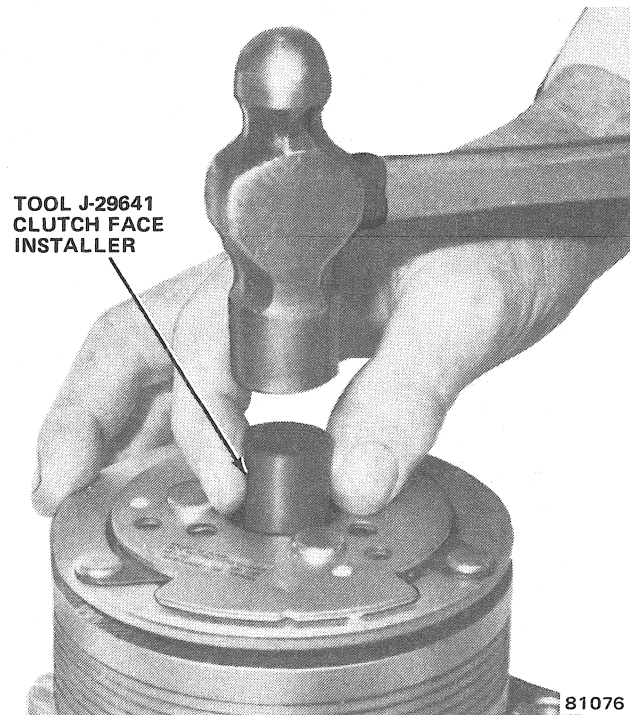

Fig. 3E-32 Front Plate Installation
(17) Install clutch spacer shims.
(18) Tap new felt ring into place and install compressor shaft key.
(19) Align front plate keyway to compressor shaft key.
(20) Using Clutch Face Installer J-29641 (fig. 3E-32), tap front plate to shaft until it has bottomed on clutch shims.